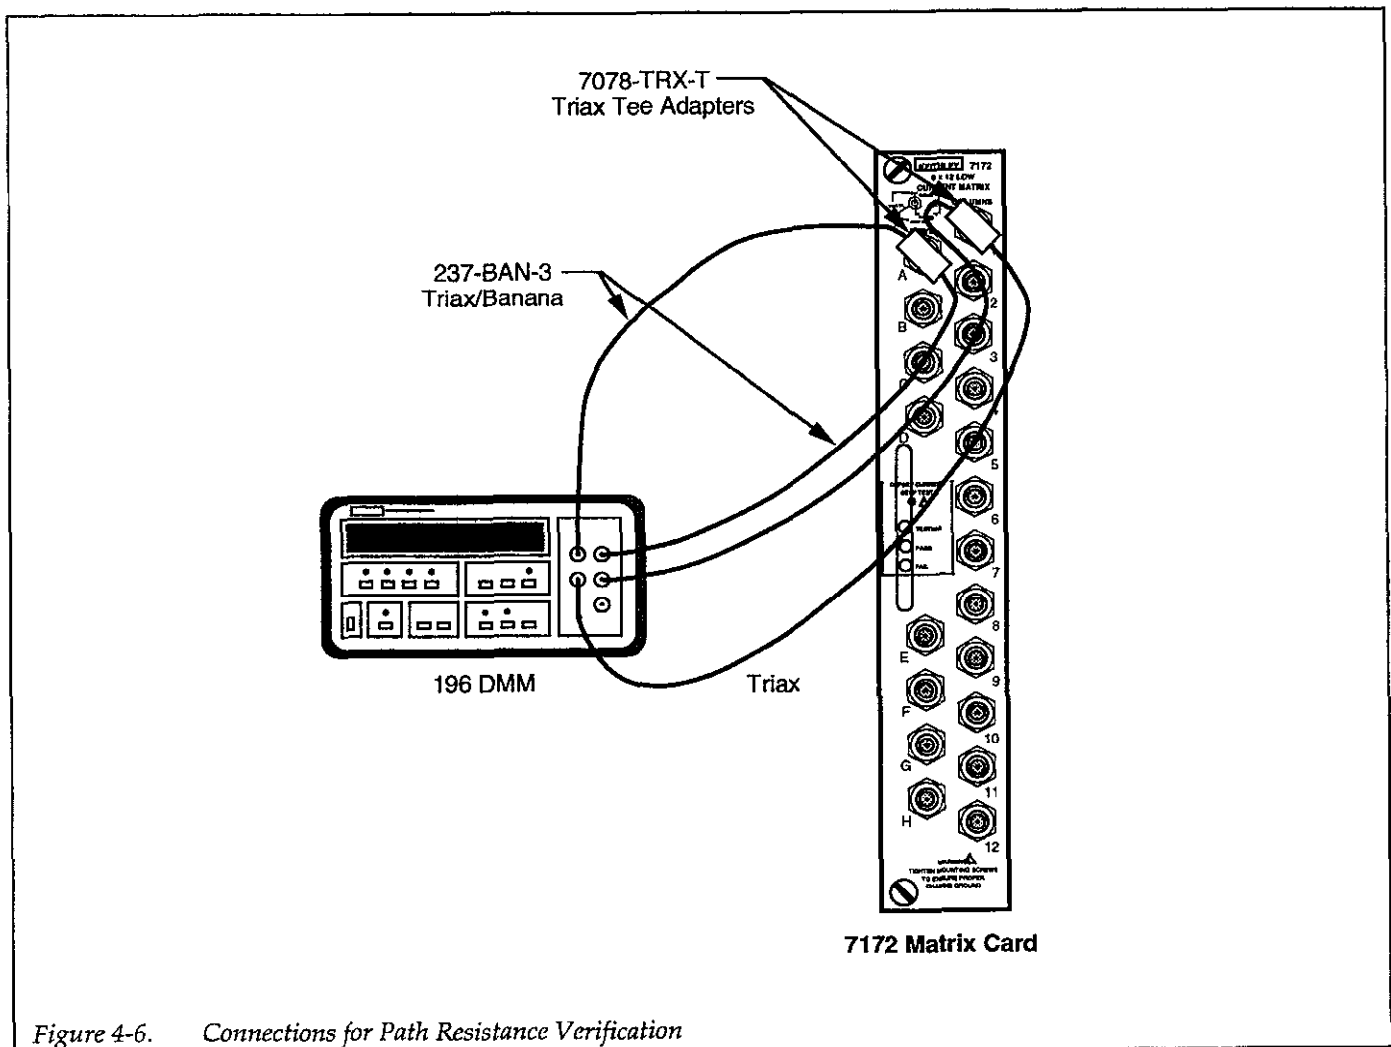

Figure 4-6. Connections for Path Resistance Verification
Figure 4-6 shows the connections for the path resistance tests. The Model 196 is to be connected to the row and column jacks using Model 237-BAN-3 triax/banana cables. These cables differ from the one of Figure 4-5 in that the inner shield and center conductor are not connected together.
3. Connect the four triaxial cables to the Model 196 and the two triax tee adapters (Figure 4-6), but do not yet connect the adapters to the Model 7172.
8. cable to the row A and column 1 connectors on the Model 7172 (see Figure 4-6).